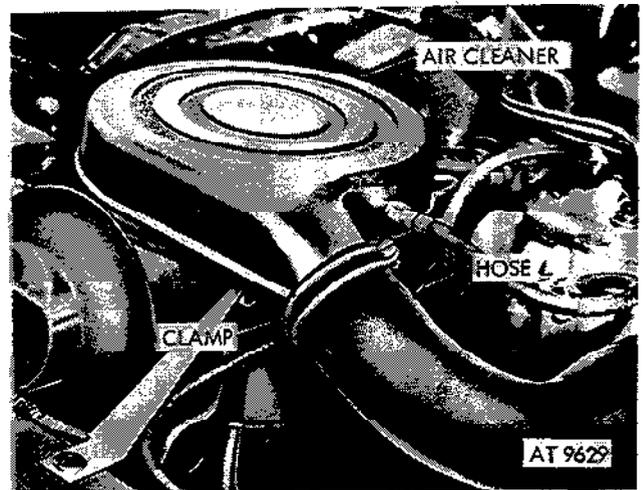

Figure 2-88. Remove hose from air cleaner.
(1) Loosen clamp screw and clamp at air intake hose. Remove hose from air cleaner (fig. 2-88).